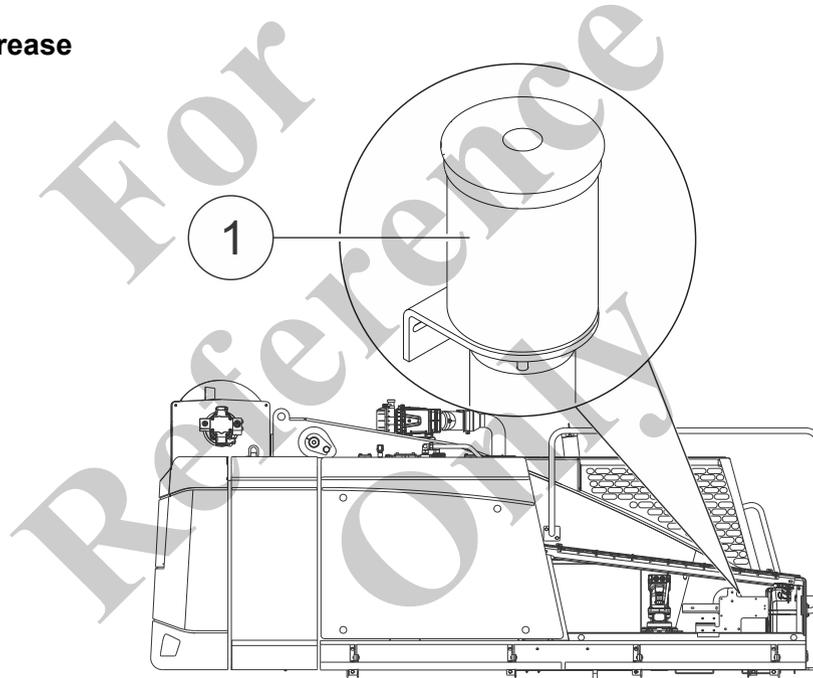

Fig. 232 Position of the lubricant reservoir
1	Open the cover of the lubricant tank (1) in Fig. 232.